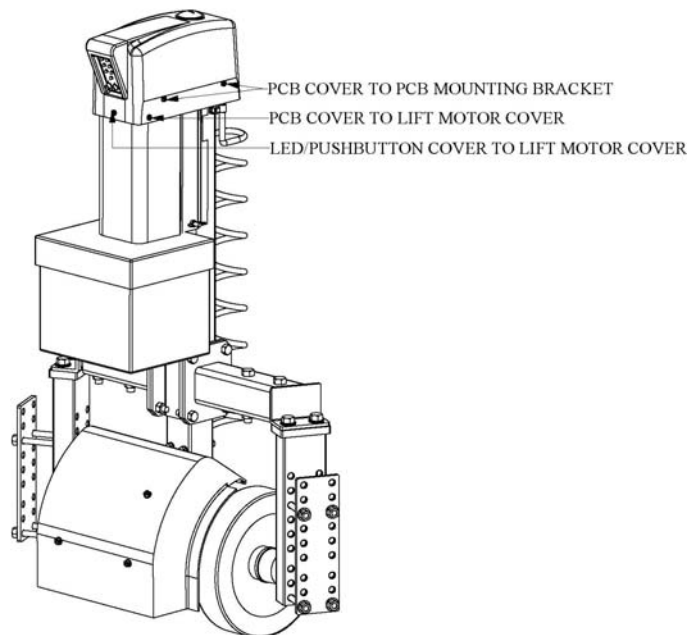
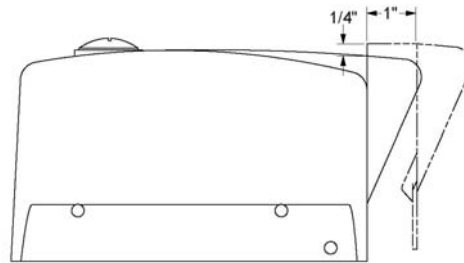

Fig.1.9
Fig. 1.10
4. Fit the LED/Pushbutton cover onto the PCB cover making sure to align and engage the attachment lip located on the underside of the LED/Pushbutton cover into the corresponding groove in the PCB cover. Refer to Fig. 1.10.
5. Align the four (4) mounting holes in the PCB cover with the holes in the PCB support brackets and partially thread in the original screws.
6. Align the two (2) mounting holes in the PCB cover with the holes in the upper end of the lift motor cover and secure with the original screws. Tighten to 10 in. lbs.
7. Tighten the four (4) screws that secure the PCB cover to the PCB support brackets. Tighten to 10 in. lbs.
2. Remove the two (2) screws that secure the upper end of the lift motor cover to the PCB cover. Refer to Fig. 1.9.
4. Remove the four (4) screws that secure the PCB cover to the PCB support brackets.
5. Carefully slide the LED/Pushbutton cover upward approximately ¼-inch to clear the attachment lip and then pull forward approximately 1-inch. Be careful not to strain the wires connecting the ON & OFF pushbutton switches and the LED PCB to the receiver PCB. Refer to Fig. 1.10.
6. Fit the LED/Pushbutton housing cover onto the PCB cover making sure to align and engage the attachment lip located on the underside of the LED/Pushbutton cover into the corresponding groove in the PCB cover. Refer to Fig. 1.10.
7. Align the four (4) mounting holes in the PCB cover with the holes in the PCB support brackets and partially thread in the original screws.
8. Align the two (2) mounting holes in the PCB cover with the holes in the upper end of the lift motor cover and secure with the original screws. Tighten to 10 in. lb.
9. Tighten the four (4) screws that secure the PCB cover to the PCB support brackets. Tighten to 10 in. lbs.
3. Remove the two (2) screws that secure the upper end of the lift motor cover to the PCB cover. Refer to Fig. 1.9.
5. Remove the four (4) screws that secure the PCB cover to the PCB support brackets.
6. Carefully slide the LED/Pushbutton cover upward approximately 1/4-inch to clear the attachment lip and then pull forward approximately 1-inch. Be careful not to strain the wires connecting the ON & OFF pushbutton switches and the LED PCB to the receiver PCB. Refer to Fig. 1.10.